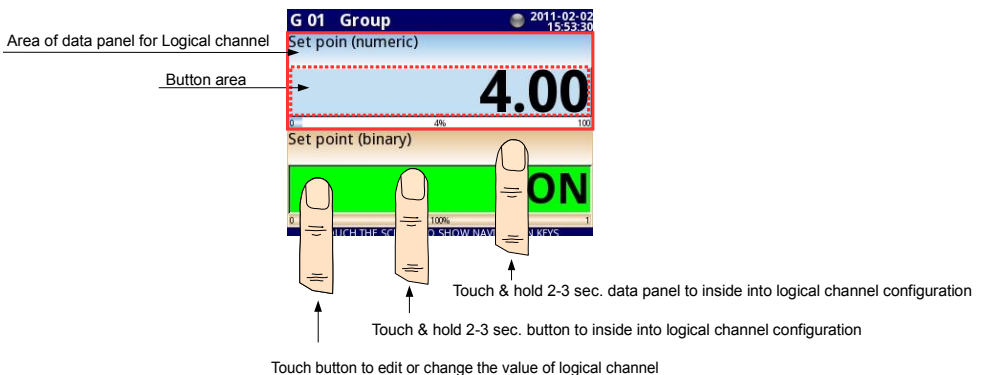

Fig. 7.42. Data panels for Logical channel in **Set point value** mode
- **Edit button** - this parameter allows you to activate the button in the panel data (see Fig. 7.42), this parameter has two options: